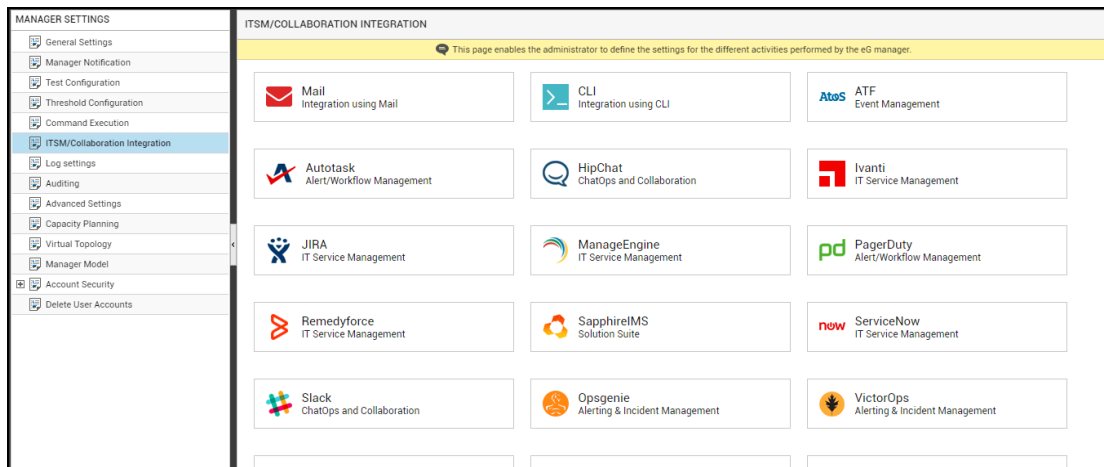
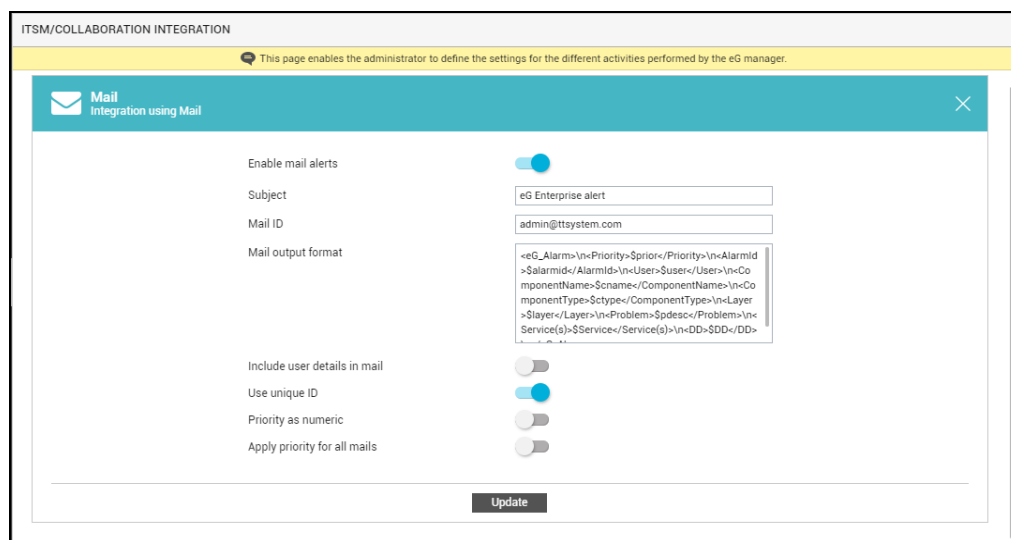

Figure 2.1: Viewing the ITSM/Collaboration tool options
Figure 2.2: Configuring the TT mail settings
3. Figure 2.1 will then appear. From the **MANAGER SETTINGS** tree in the left panel of Figure 2.1, select the **ITSM/Collaboration Integration** node. The third-party ITSM/Collaboration tools that eG Enterprise can integrate with will be listed in the right panel.
- Now, click on the **Mail** option in the right panel (see Figure 2.1). A **Mail** section will now appear in the right panel (see Figure 2.2).
- To enable TT integration using a mail interface, slide the **Enable mail alerts** slider in the Figure 2.2 to the left.